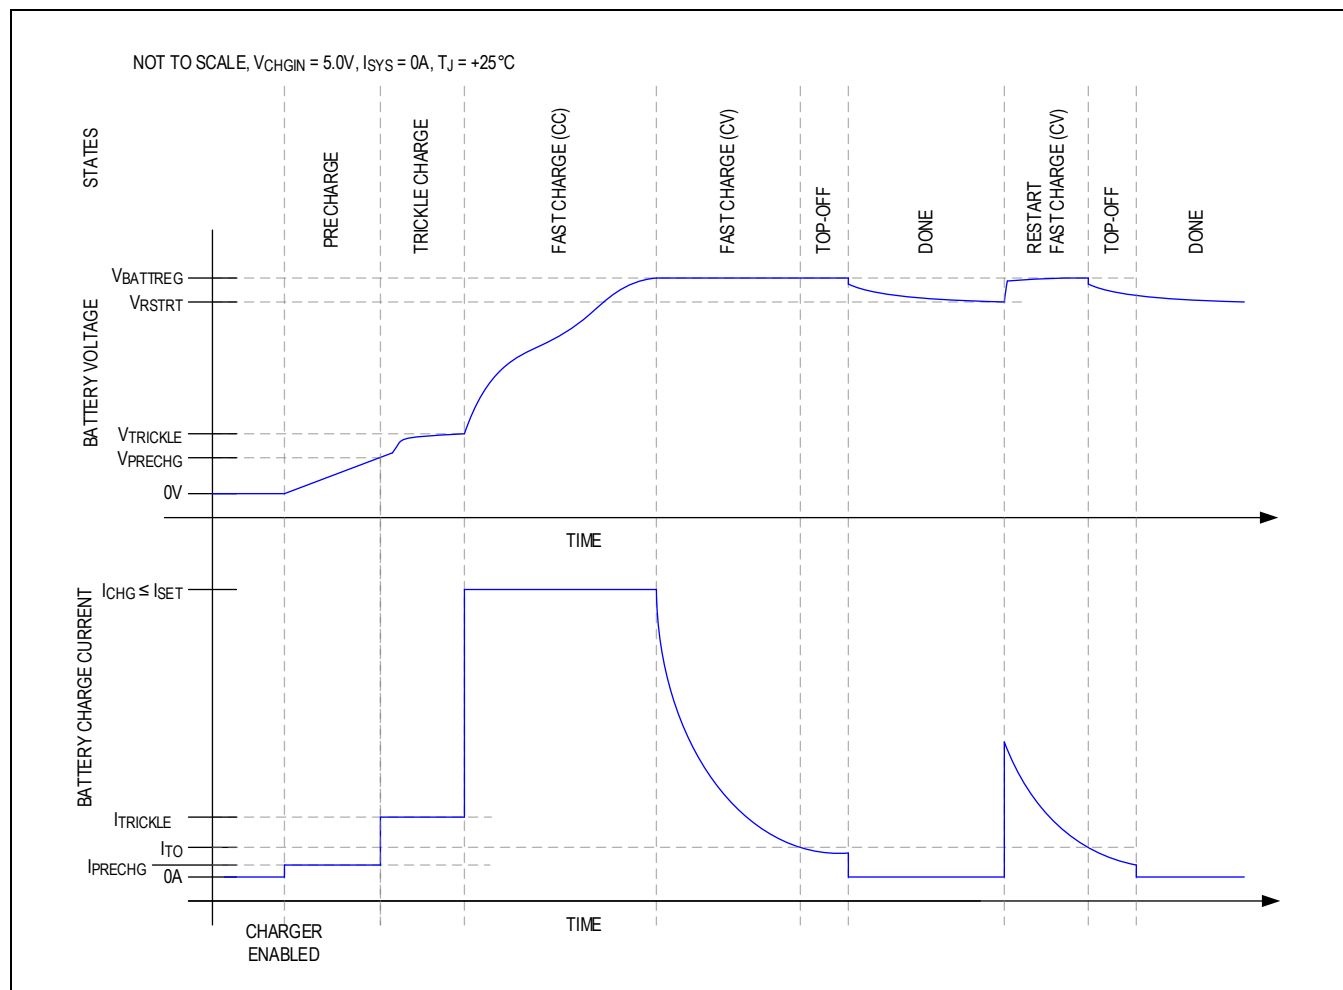
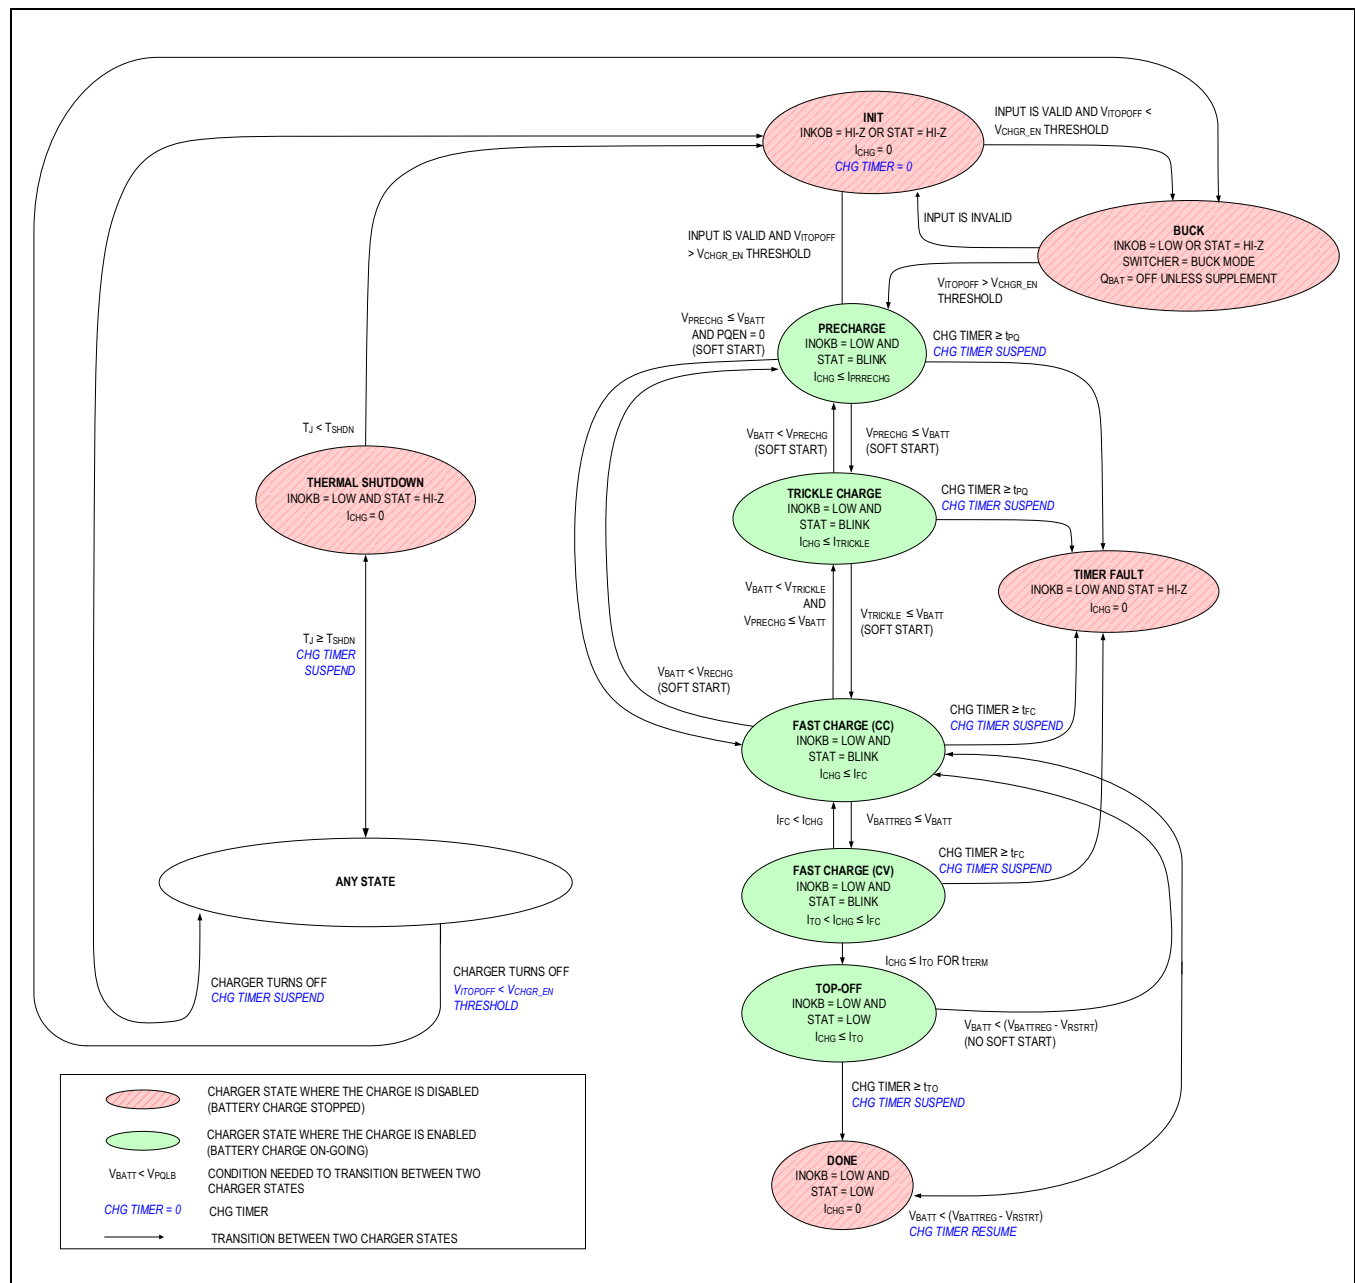

Figure 5. Li+/Li-Poly Charge Profile
Figure 6. Charger State Diagram
The MAX77789 utilizes several charging states to safely and quickly charge batteries, as shown in Figure 5 and Figure 6. Figure 5 shows an exaggerated view of the Li+/Li-Poly battery progressing through the following charge states when there is no system load and the die and battery are close to room temperature: precharge \rightarrow trickle \rightarrow fast-charge \rightarrow top-off \rightarrow done.
From any state shown in Figure 6 except thermal shutdown, the “INIT” state is entered whenever the charger inputs CHGIN is invalid, or the charger timer is suspended.
The chip has a state where battery charging is disabled, while the charger input CHGIN is valid. The state is called “buck” state. Entering or leaving the buck state is controlled by the EXTSM pin. If the voltage of this pin is pulled down by an external device (i.e., MCU) under VCHGR_EN, the chip goes to the buck state from any state if CHGIN is valid, as shown in Figure 6. Charging is disabled in the “buck” state, which means QBAT is off unless it is in supplement mode. If the voltage of this pin is over VCHGR_EN, the chip leaves the buck state, and resumes charging. It should be noted that charging can only be enabled or disabled when the CHGIN is valid. Therefore, the external device (i.e., MCU) should check the INOKB signal if CHGIN is valid before trying to enable or disable charging.
As shown in Figure 6, the precharge state occurs when the main battery voltage is less than VPRECHG. In the precharge state, charge current into the battery is IPRECHG.
As shown in Figure 6, the trickle charge state occurs when V_{BATT} > VPRECHG and V_{BATT} < VTRICKLE.
As shown in Figure 6, the fast-charge constant current (CC) state occurs when the main-battery voltage is greater than the trickle threshold and less than the battery regulation threshold ($V_{TRICKLE} < V_{BATT} < V_{BATTREG}$).
As shown in Figure 6, the fast-charge constant voltage (CV) state occurs when the battery voltage rises to $V_{BATTREG}$ from the fast-charge CC state.
In the fast-charge CV state, the battery charger maintains $V_{BATTREG}$ across the battery and the charge current is less than or equal to I_{FC} . As shown in Figure 5, charger current decreases exponentially in this state as the battery becomes fully charged.
As shown in Figure 6, the top-off state can only be entered from the fast-charge CV state when the charger current decreases below I_{TO} for t_{TERM} . In the top-off state, the battery charger tries to maintain $V_{BATTREG}$ across the battery and typically the charge current is less than or equal to I_{TO} .
As shown in Figure 6, the battery charger enters the done state after the charger has been in the top-off state for t_{TO} .
The battery charger provides a charge timer to ensure safe charging. As shown in Figure 6, the charge timer prevents the battery from charging indefinitely. The time that the charger is allowed to remain in each of the prequalification states is t_{PQ} . The time that the charger is allowed to remain in the fast-charge CC and CV states is t_{FC} . Finally, the time that the charger is in the top-off state is t_{TO} . Upon entering the timer fault state, STAT2 becomes Hi-Z.
In the timer fault state, the charger is off. The charger input can be removed and re-inserted to exit the timer fault state (See the “any state” bubble in the lower left of Figure 6).
As shown in Figure 6, the thermal shutdown state occurs when the battery charger is in any state and the junction temperature (T_J) exceeds the device's thermal-shutdown threshold (T_{SHDN}). When T_J is close to REG , the charger folds back the input current limit to 0A so that the charger and inputs are effectively off.